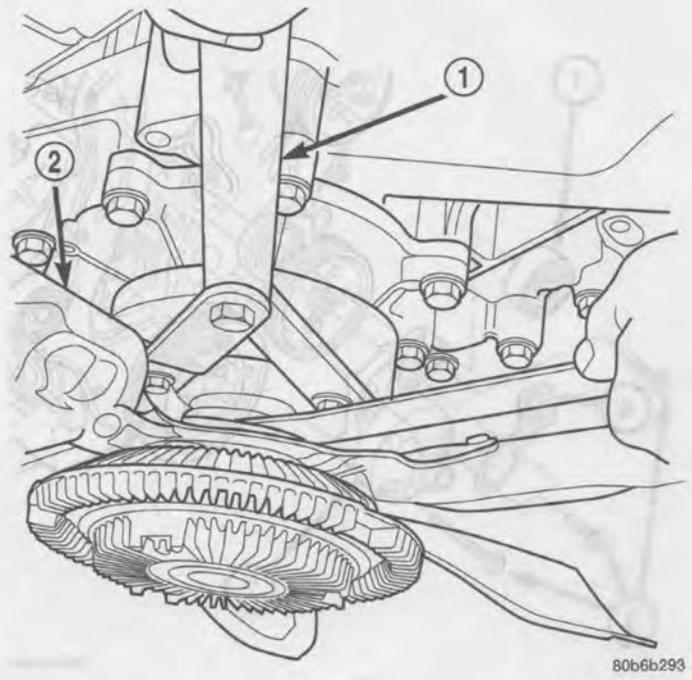

Fig. 36 FAN DRIVE VISCOUS CLUTCH - TYPICAL
(2) Remove fan blade/viscous fan drive assembly from water pump using special tool 6958 spanner wrench, by turning mounting nut counterclockwise as viewed from front (Fig. 36) (Fig. 37). Threads on viscous fan drive are **RIGHT HAND**.
(3) Do not attempt to remove fan/fan drive viscous clutch assembly from vehicle at this time.
(4) Do not unbolt fan blade assembly from fan drive viscous clutch at this time.
(5) Remove fan shroud to radiator bolts.
(6) Remove fan shroud and fan blade/fan drive viscous clutch assembly as a complete unit from vehicle.
(7) After removing fan blade/fan drive viscous clutch assembly, **do not** place viscous clutch in horizontal position. If stored horizontally, silicone fluid in the fan drive viscous clutch could drain into its bearing assembly and contaminate lubricant.
(8) Remove four bolts securing fan blade assembly to fan drive viscous clutch.